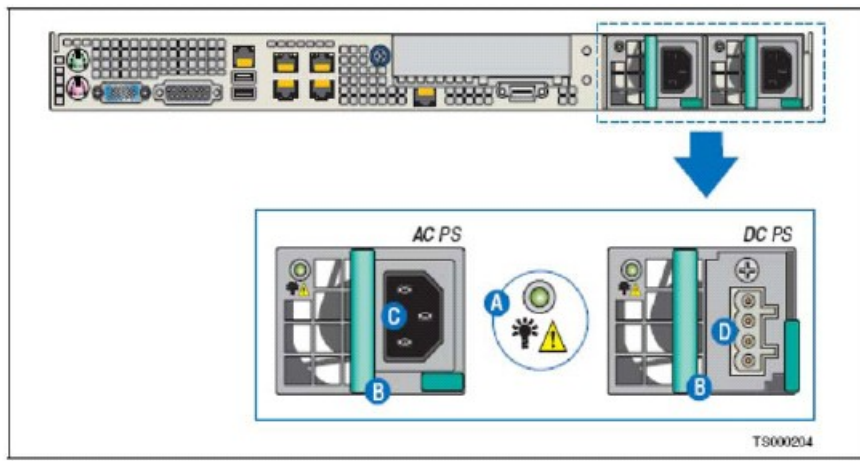

Figure 27: AC and DC Power Supplies
1. Check the status LED to determine which power supply has failed (“A” in Figure 27: AC and DC Power Supplies). Disconnect the appropriate power cable.